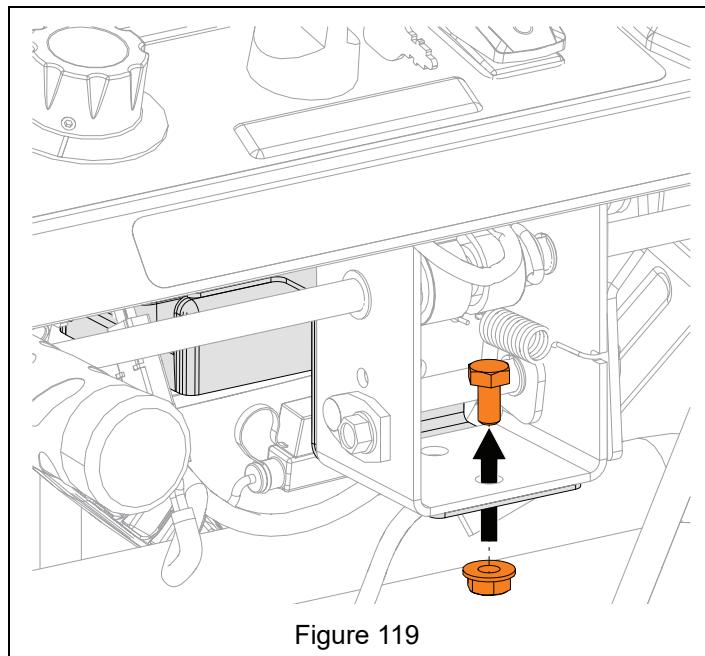

Figure 119
4. Remove hardware retaining ECU bracket and remove bracket. See Figure 119.